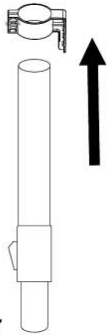

Fig.7
**Step 7:** Insert the adjustable tube into the hook and set the tube in place (Fig. 7). Fasten with the screw.